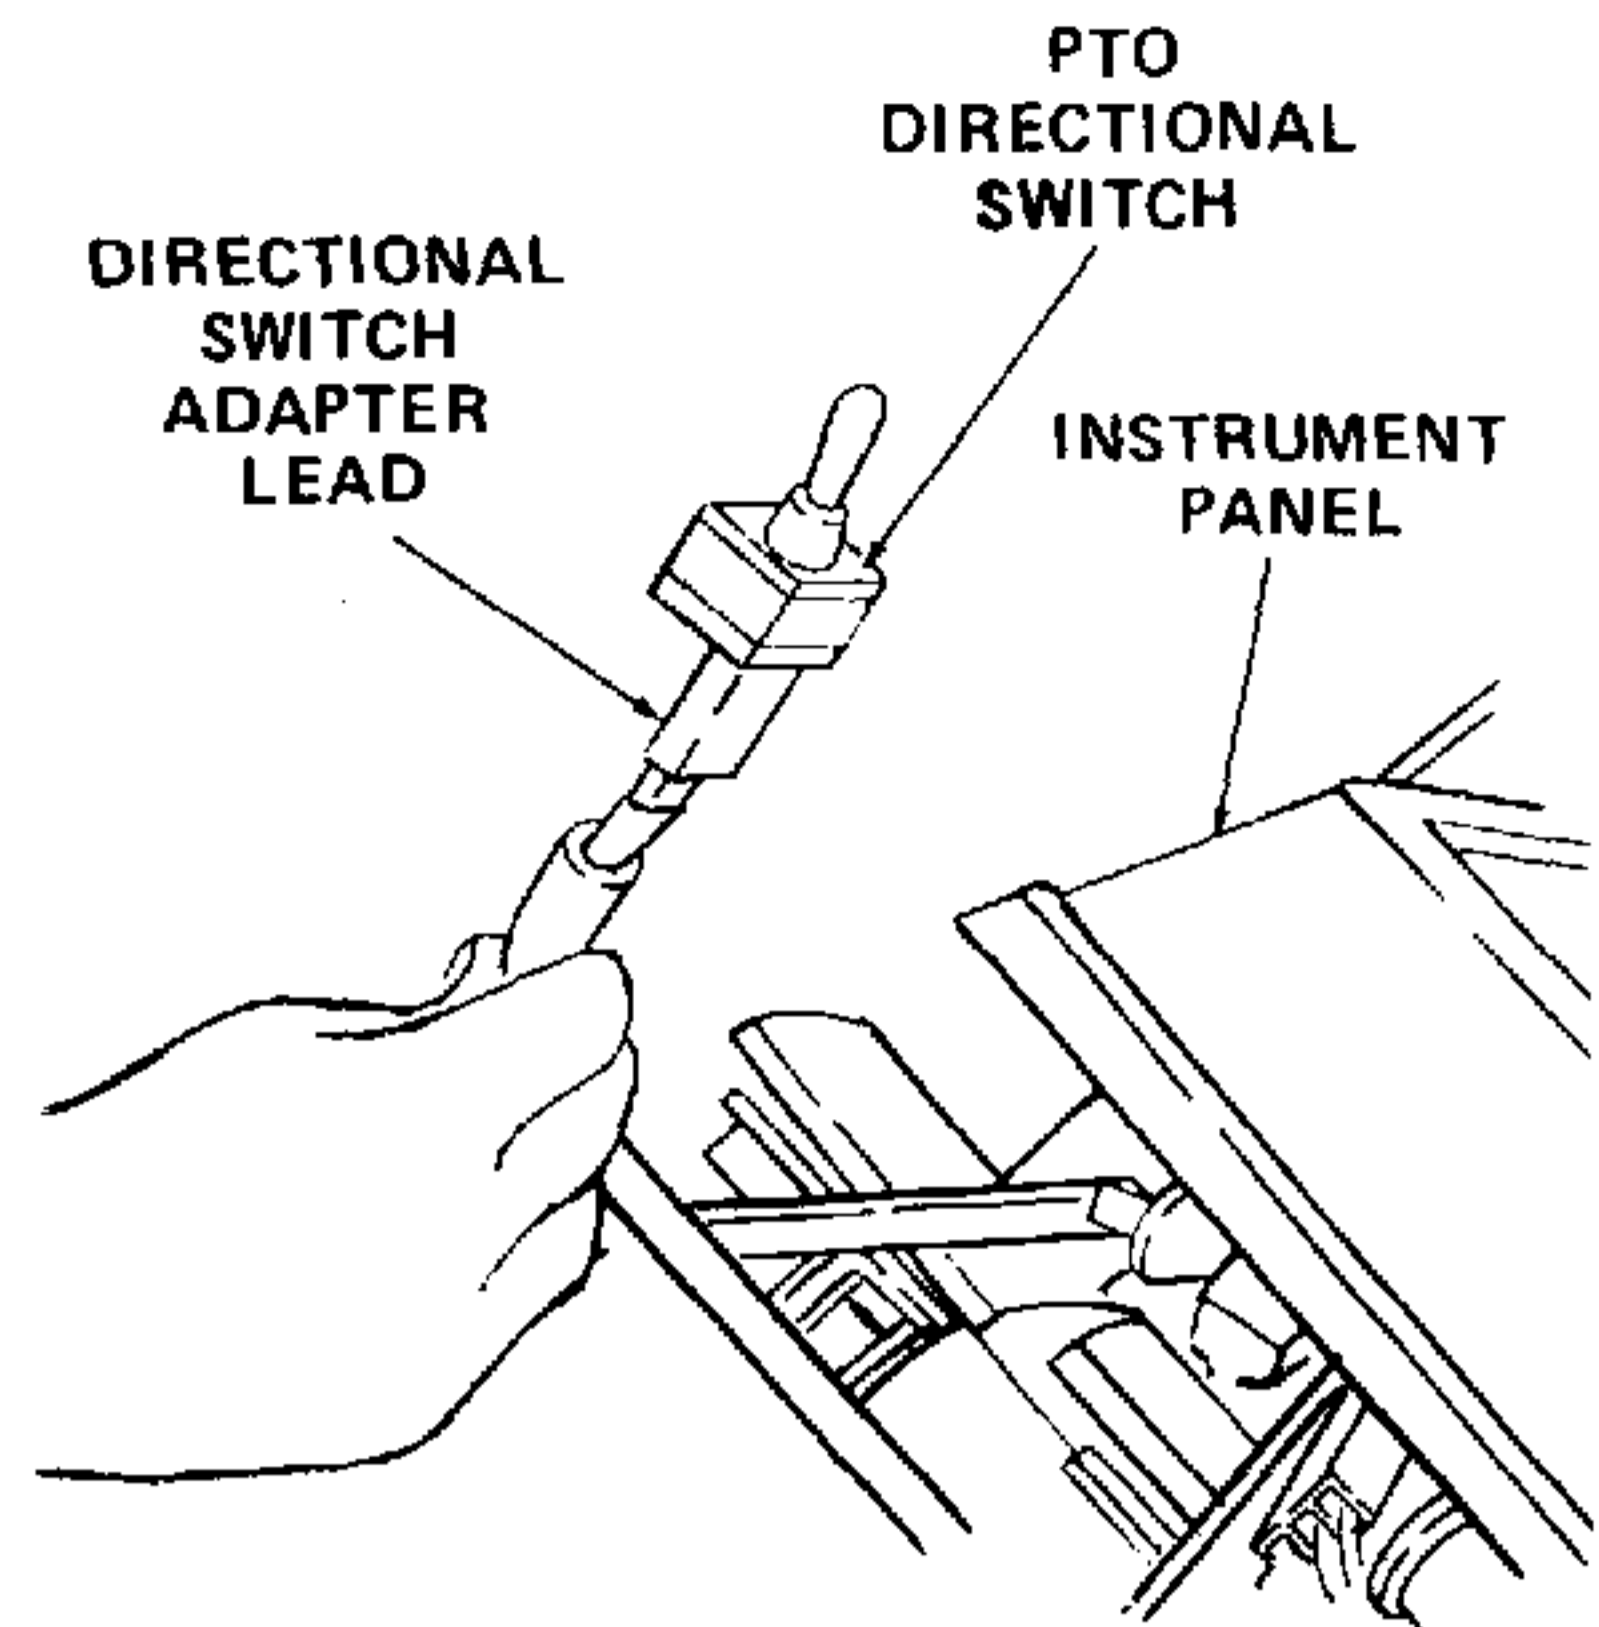

Figure 7-34. Installing Directional Switch Adapter Lead.
- b. Connect other end of harness to PTO directional switch. Refer to Figure 7-34.